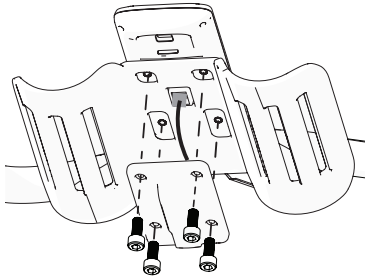

Figure 2
- 4. Secure the console using four socket head screws through the back plate and into the console case (Figure 2).